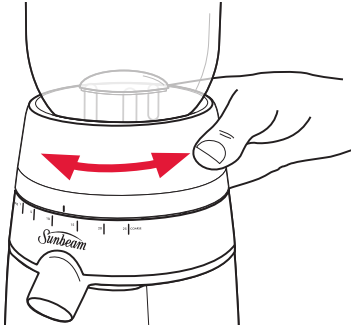

Figure 4
8. Select the grind by turning the grind adjustment collar to the desired setting, see figure 4.